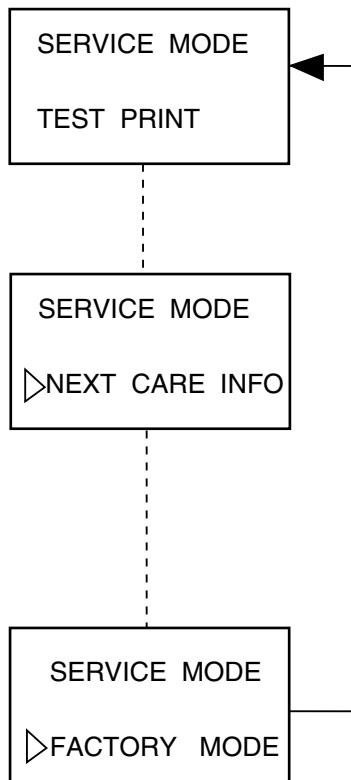

Fig. 6-3
1. By pressing the Scroll keys, you can select one of the Service Modes (see Fig. 6-3).